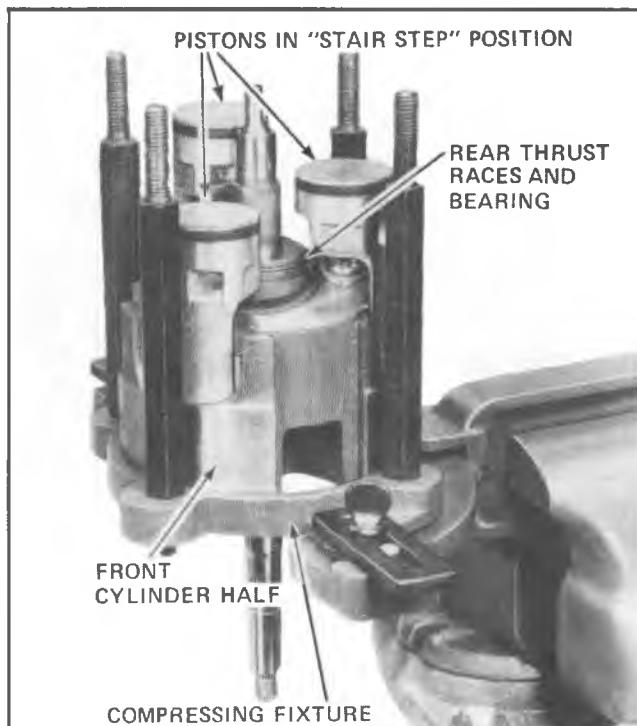

Fig. 54--A-6 Pistons Positioned in Stair-Step Arrangement
6. Now rotate the shaft to position the pistons in a stair-step arrangement; then **carefully** place the rear cylinder half over the shaft and start the pistons into the cylinder bores (Fig. 54).